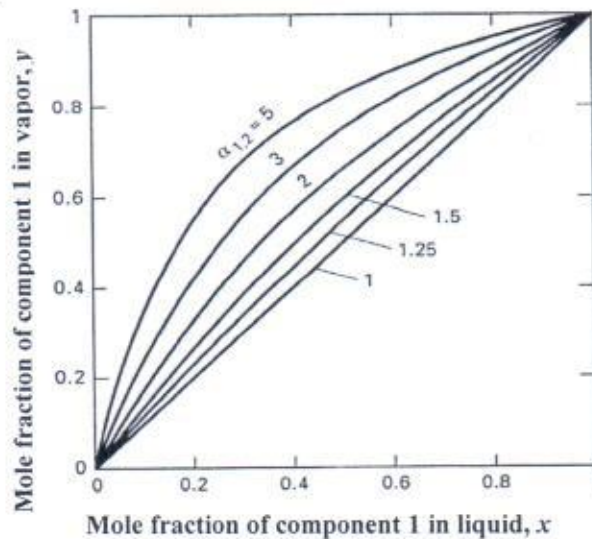

Figure Q.2.[a]: Vapor-liquid phase equilibrium curves for constant values of relative volatility
2. [a] Figure Q.2.[a] shows the vapor-liquid phase equilibrium curves for constant values of relative volatility of component 1 with respect to component 2 in the binary system, $\alpha_{1,2}$.